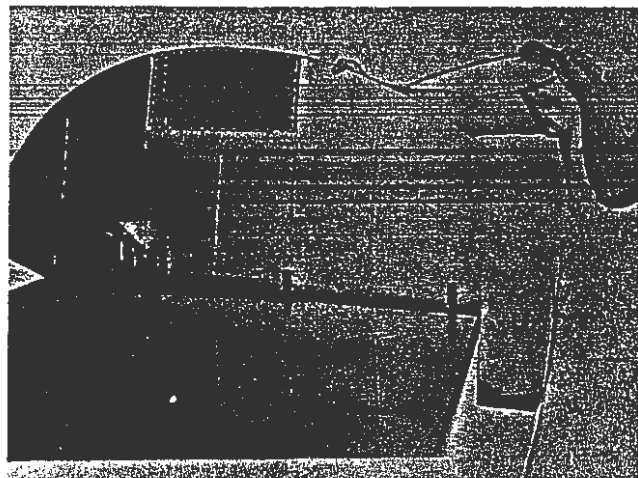

Figure 2-50. Rudder Tab Hinge Wire Removal
- b. Remove tab hinge wire and remove tab (figure 2-50).